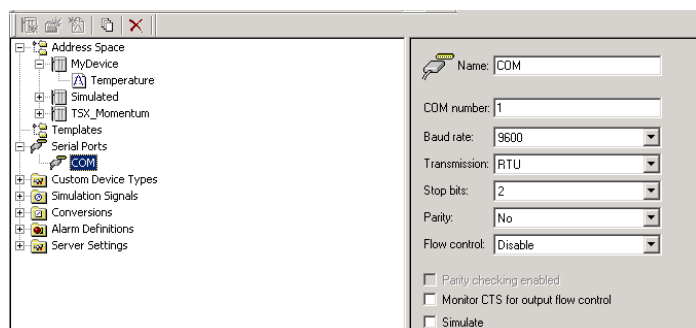

Figure 5 - Serial COM port setting
4. If selecting Modbus Serial RS-232 then define a Serial port with properties matching to Serial device as shown in Figure 5.